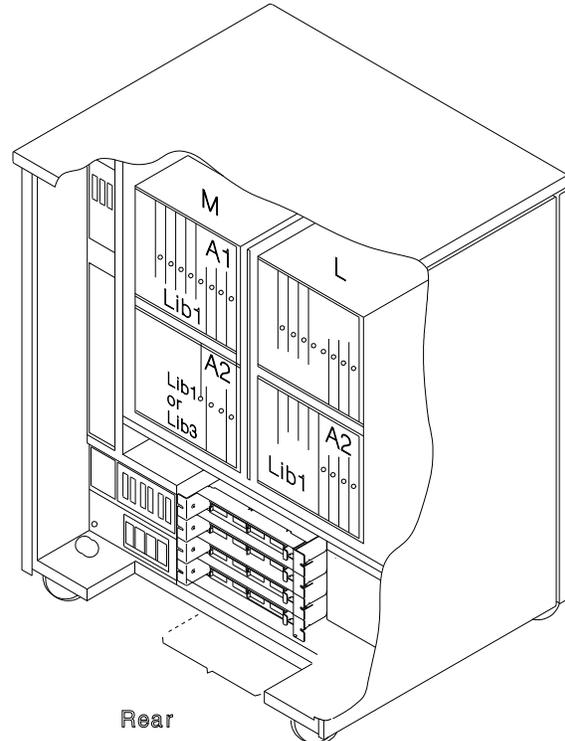

Figure 4-115. LIC Board Type 1 Locations
5. Locate the board to be exchanged. Refer to Figure 4-115.